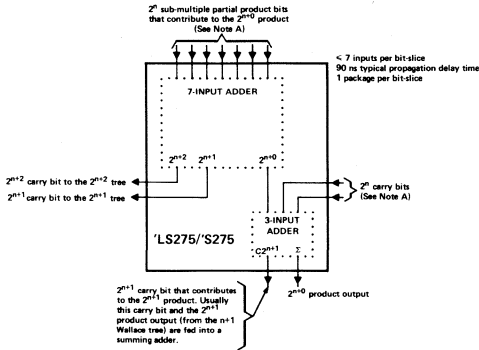
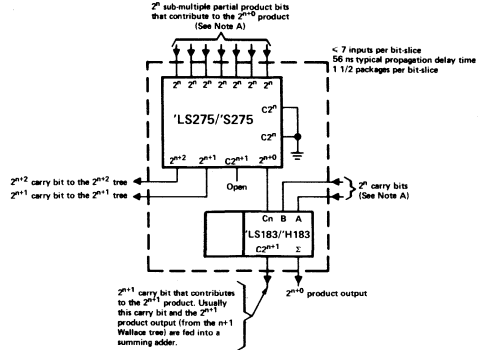

FIGURE 1—BASIC BIT-SLICE WALLACE TREE
FIGURE 2—HIGH-SPEED BIT-SLICE WALLACE TREE
*Each starred block may be either a basic bit-slice Wallace tree ('LS275 or 'S275 only) or a high-speed bit-slice Wallace tree ('LS275 plus 1/2 'LS183 or 'S275 plus 1/2 'H183). In either case the function of the terminal is the same as the similarly located terminal of the basic bit-slice (Figure 1) or high-speed bit-slice Wallace tree (Figure 2). Also for either tree, when only five inputs of the seven-input adder of the 'LS275/'S275 are used, the remaining two inputs must be grounded. When the high-speed adder is used, the C2ⁿ inputs of the 'LS275/'S275 must be grounded.